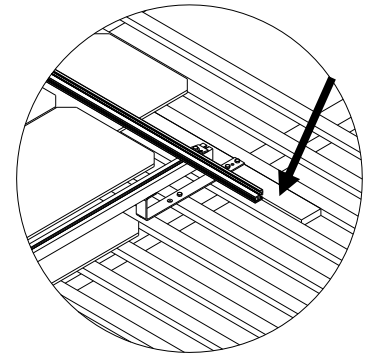

Fig. 4
- Fix all the roof hooks (1) according to the table above (distance L). If necessary use additional roof battens to balance out the height of the existing roof battens (Fig. 4).